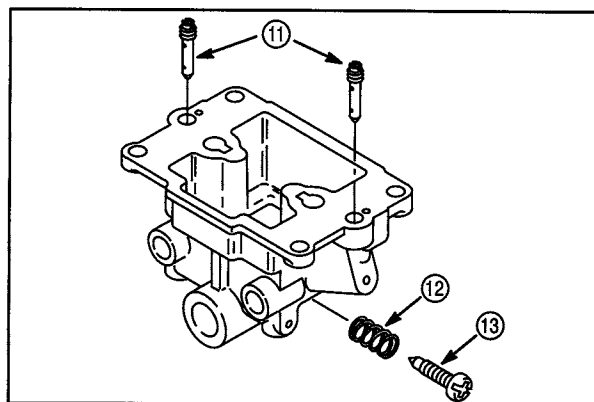

Fig. 63
5. Remove pilot jets (11), **Fig. 63**.
6. Remove float bowl drain screw (13) and spring (12).